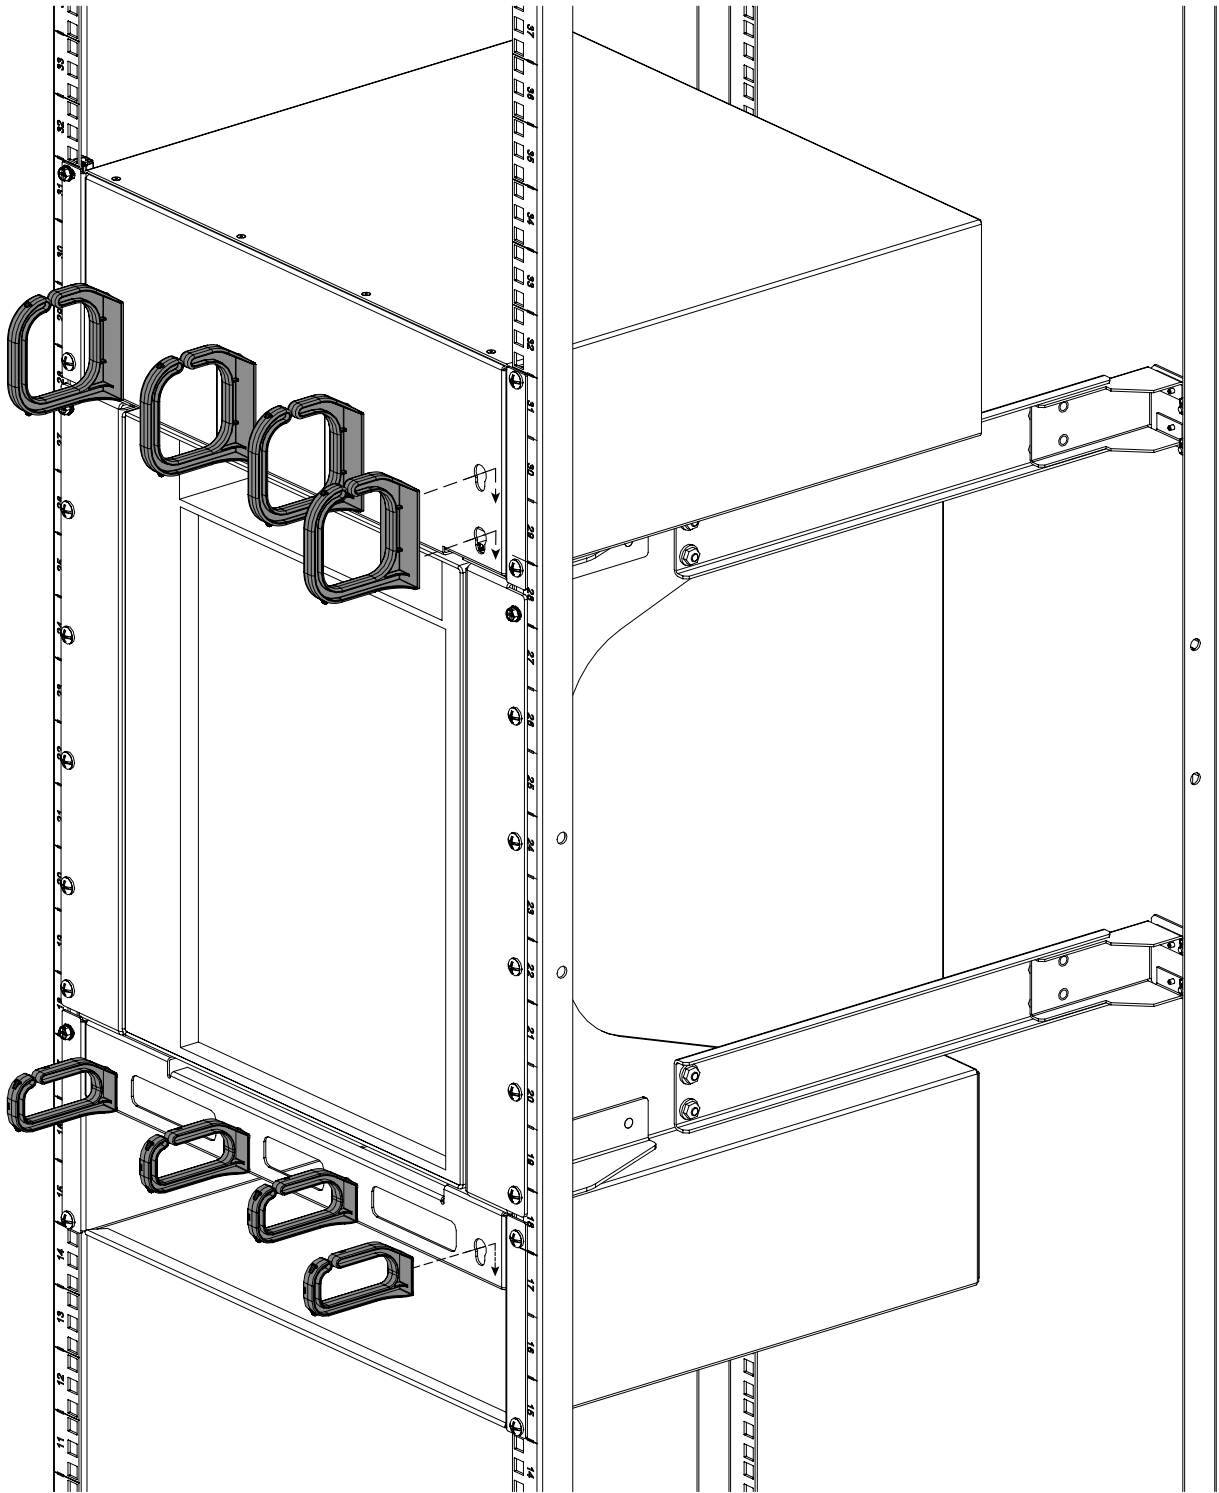

Figure 16
- Cable Managers are inserted into Keyholes and pushed downward to lock into place (Figure 16).